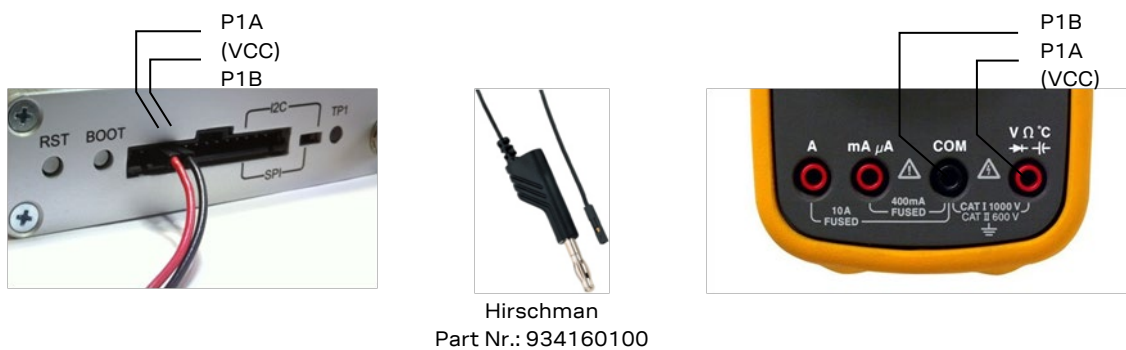

Figure 9: Example – tracking current measurement
1. Connect a mean reading voltmeter across P1A (VCC) and P1B of the front connector (see Figure 9).